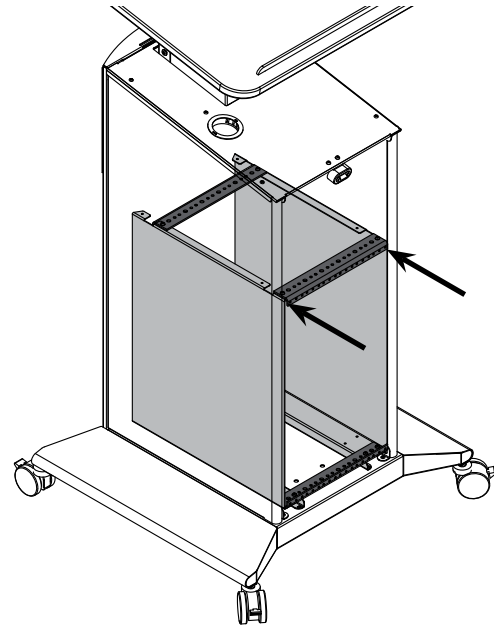

Figure 2.1
1. Place the rack cube assembly onto the base panel of lectern. **Figure 2.1.**